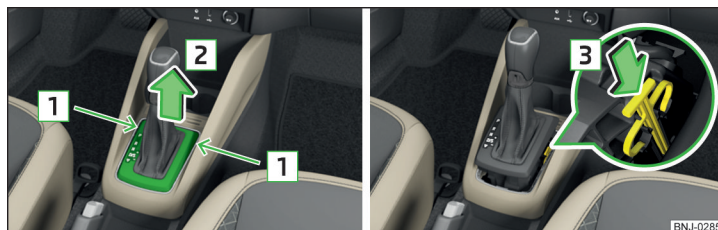

Fig. 196 Remove / release the selector lever
- Insert a flat-head screwdriver or similar tool into the gap in the arrow area **1** » Fig. 196 and carefully lift the cover in arrow direction **2**.